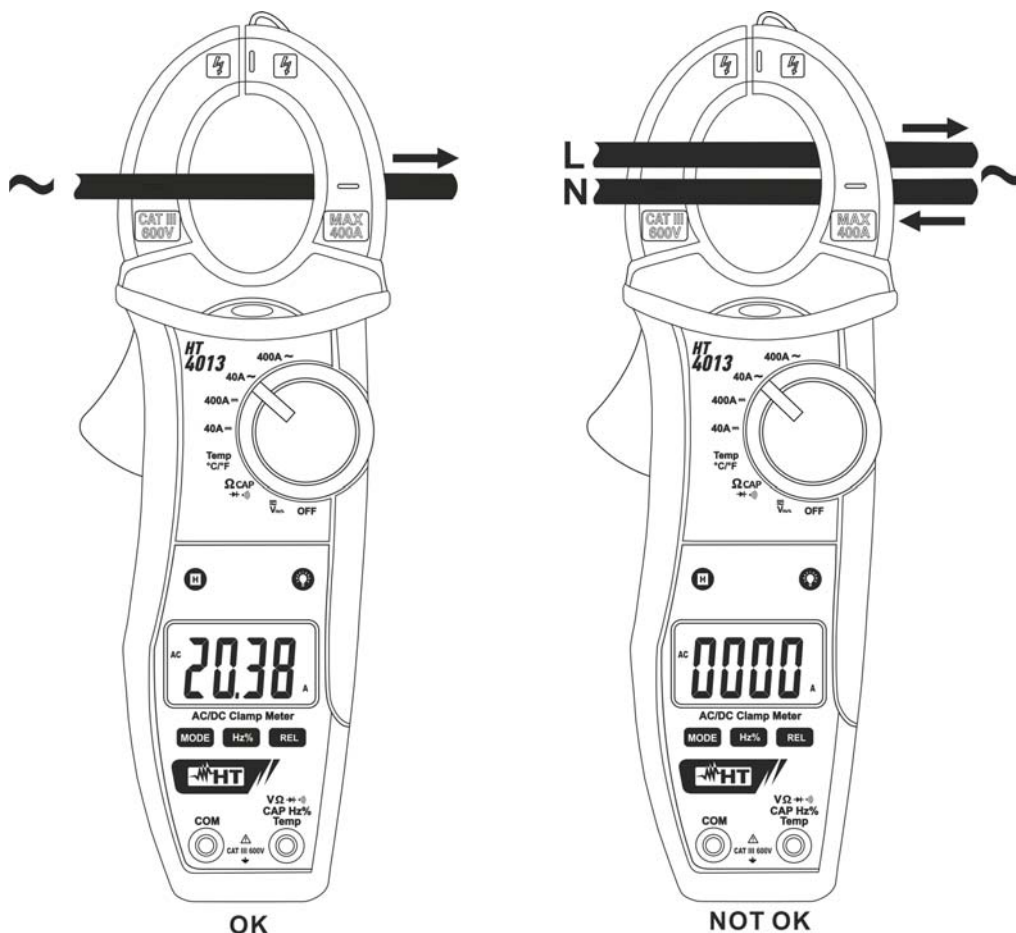

Fig. 10: Use of the clamp for AC and DC current measurement
4. On DC current measurement the “-” symbol at display means that the meter is connected in the opposite side compared with current direction (see Fig. 10)